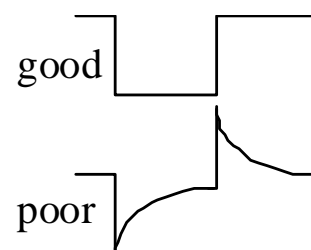

Figure 4
4. During this adjustment procedure - **after** penetration has started - you can also check for the quality of the silver paint contacts. When pressing the calibration button (CAL) on the control unit the pulse should be visible in the output signal as a proper square pulse (Fig. 4, good). If only the edges are seen without a clear level of the pulse, the electrical quality of the contact is poor. Try to experience this technique first with aphids (the best known insects for EPGs) if you doubt that you master the technique. Also, aphids have their own 'square pulses', i.e. the potential drops (pds).